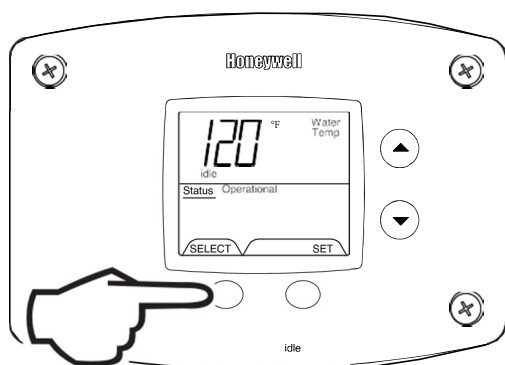

Figure 27
2. Pressing 'Select' button will change display to next mode (Fig. 27).